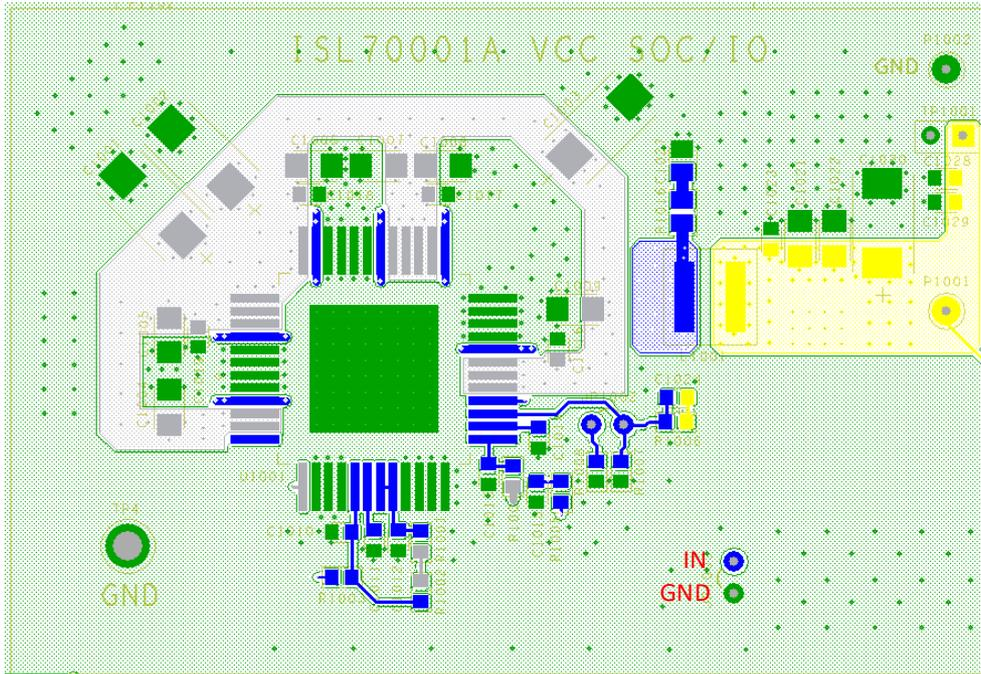

Figure 5. ISL70001A_VCC_SOC_IO Load Generator Input Orientation
The ISLVERSALDEMO2Z evaluation board includes a circuit breaker to disconnect the 5V rail powering the 0.8V/100A VCC INT core rail. This provides additional protection to the VC1902 under an overcurrent condition. The circuit breaker function is implemented with (5) ISL70061SEH NMOS load switches connected in parallel that is triggered to shut off during an overcurrent, as shown in the Figure 5 application circuit of the ISL70061SEH datasheet.